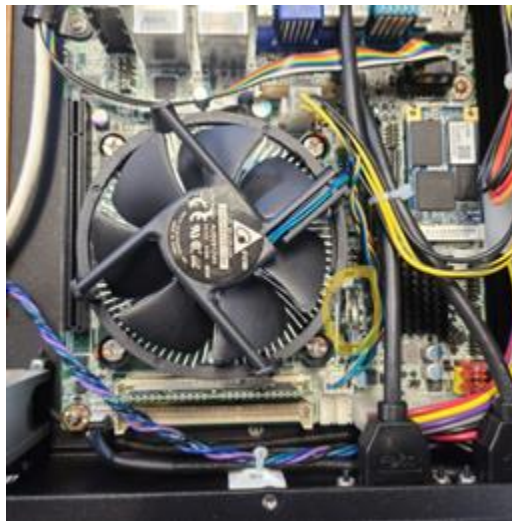

Figure 38: Location of Battery on Motherboard of Older Units
1. Remove the top cover by unscrewing the eight (8) Philips head screws.
3. Replace the 2032 coin cell battery located next to the RAM, as shown in Figure 38.